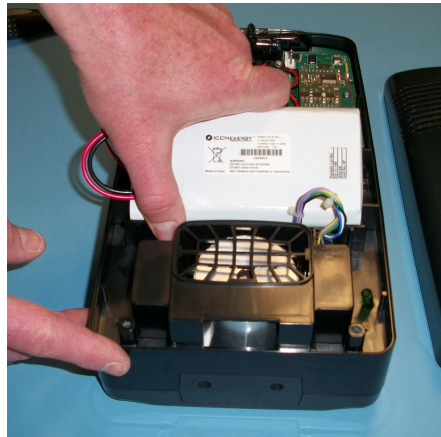

Figure 5.5
3. The battery pack is fastened using Velcro. To remove the pack, simply pull on battery. (See Figure 5.5.)